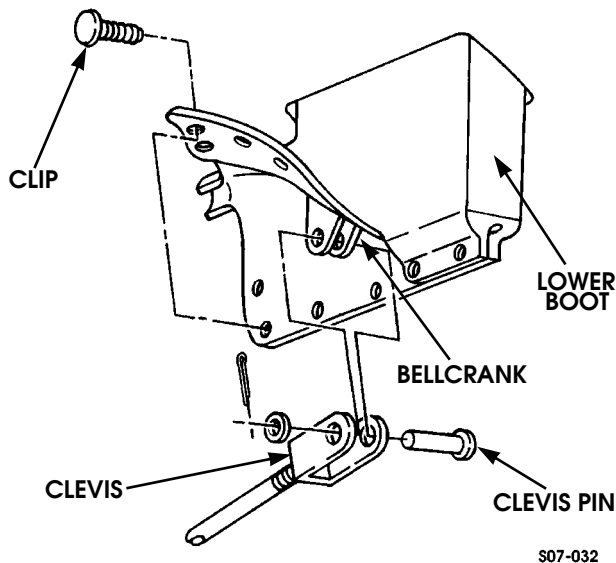

Figure 7-40: Parking Brake Rod Attachment at Hand Lever
3. Remove six clips and open lower boot to allow access to clevis pin. Discard clips (Figure 7-40).
6. Install clevis on bellcrank with clevis pin, washer, and cotter pin (Figure 7-40).